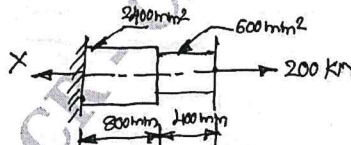

Fig.Q4(a)
- 4 a. A stepped bar shown in Fig.Q4(a), determine the nodal displacement and stresses at each node. Take  $E = 2 \times 10^5 \text{ N/mm}^2$ .